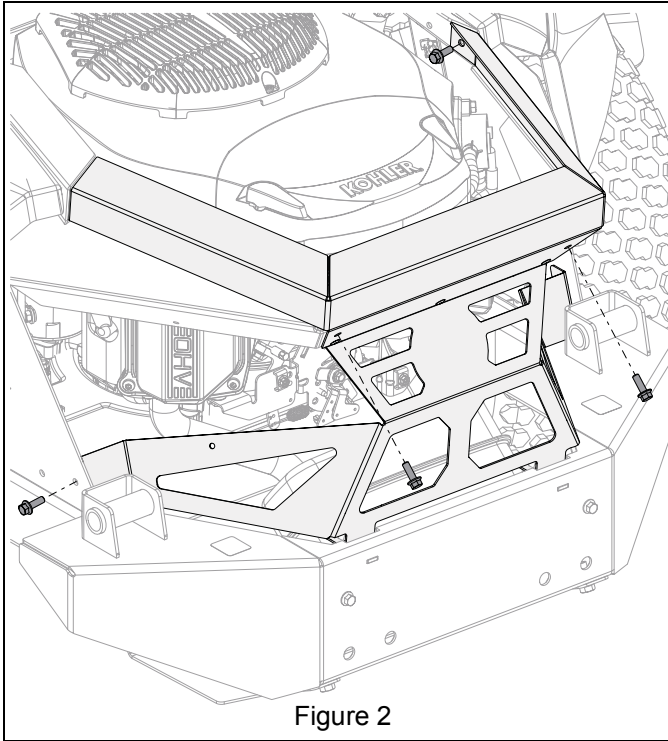

Figure 2
1. Remove hardware retaining engine shroud and remove engine shroud. See Figure 2.
6. Reinstall engine shroud and secure with original hardware. See Figure 2.